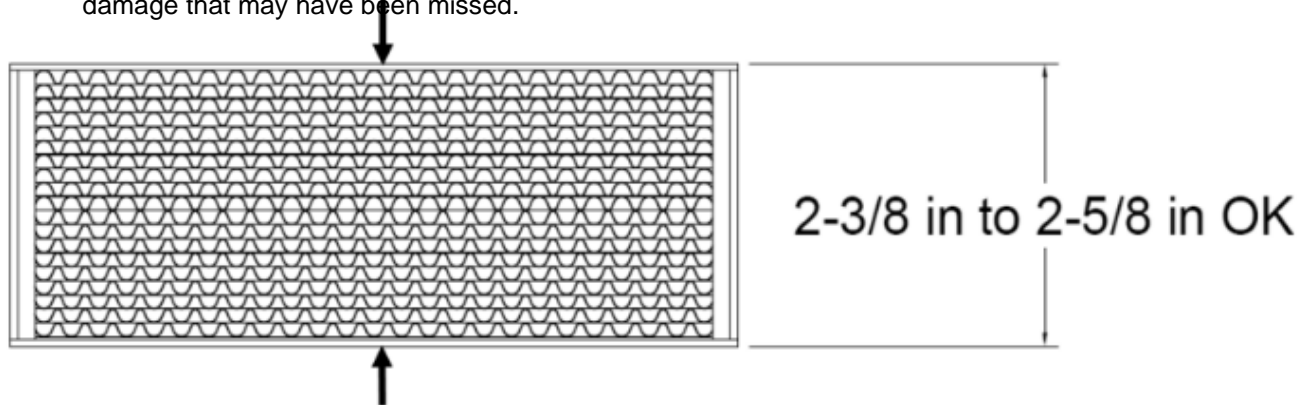

Figure 22 - Acceptable Catalyst Distortion
3. Remove the cotter pin securing the rear baffle support to the catalyst housing (A). See Figure 22.
4. Support the rear baffle while pulling the rear baffle support outwards towards the front of the stove (B)
9. Remove the cotter pin securing the rear baffle support to the catalyst housing (A)
10. Support the rear baffle while pulling the rear baffle support outwards towards the front of the stove (B)